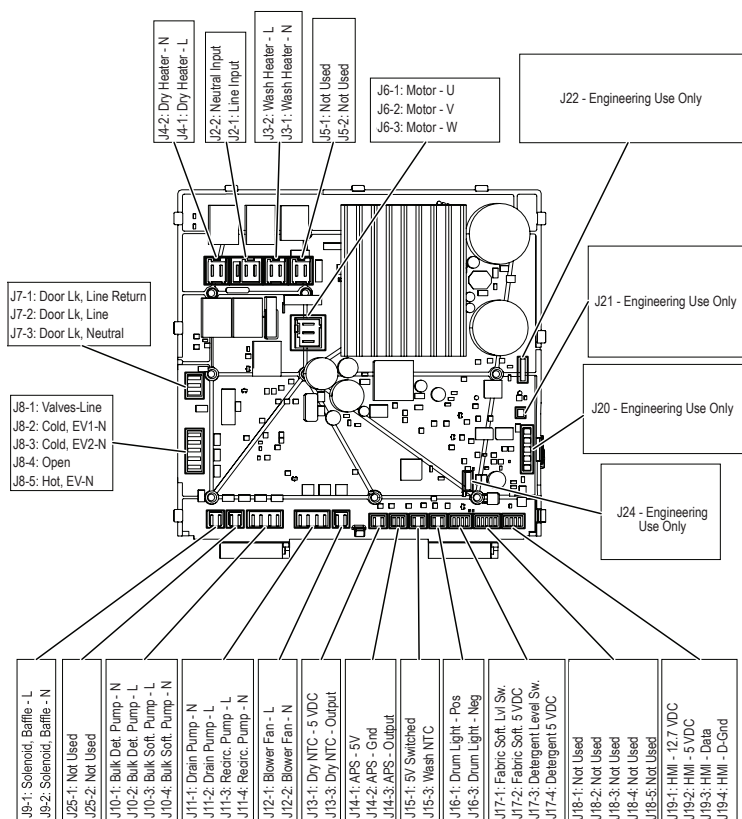

Figure 3 - Appliance Control Unit (ACU)
4. Visually check that all connections to the ACU are fully inserted. See Figure 3, page 13.
9. With a voltmeter set to **AC**, check for input line voltage to the ACU across pins 1 and 2 of connector **J2 AC In** (IF filter). See Figure 3, page 13.
See Figure 3, page 13.
5. Perform TEST #1: ACU Power Check, page 12, then visually check that connector **J6** is inserted all the way into the ACU. Refer to Figure 3, page 13.
4. Visually check that the **J7** (door switch / door lock) connector is inserted all the way into the ACU. Refer to Figure 3, page 13.
3. Verify the drum light connector (**J16**) is securely connected to the ACU. See Figure 3, page 13.